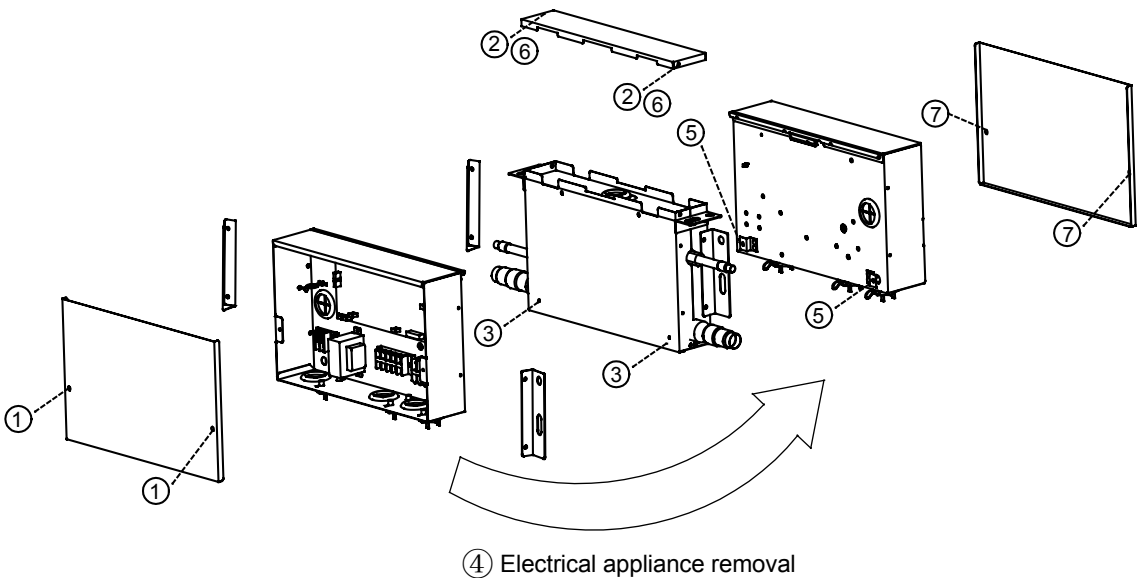

Fig.1
(1) Change the installation direction of electric box according to requirements following the steps below; (see Fig.1)
- ① Remove the cover of the electrical appliance box; (2 screws)
- ② Remove the electrical appliance box; (2 screws)
- ③ Remove the top plate; (4 screws)
- ④ Change the outgoing direction of wiring (electric valve coil) between the equipment and the electrical appliance box;
- ⑤ Rotate 180° to install the top plate;
- ⑥ Install the electrical appliance box;
- ⑦ Install the cover of the electrical appliance box.